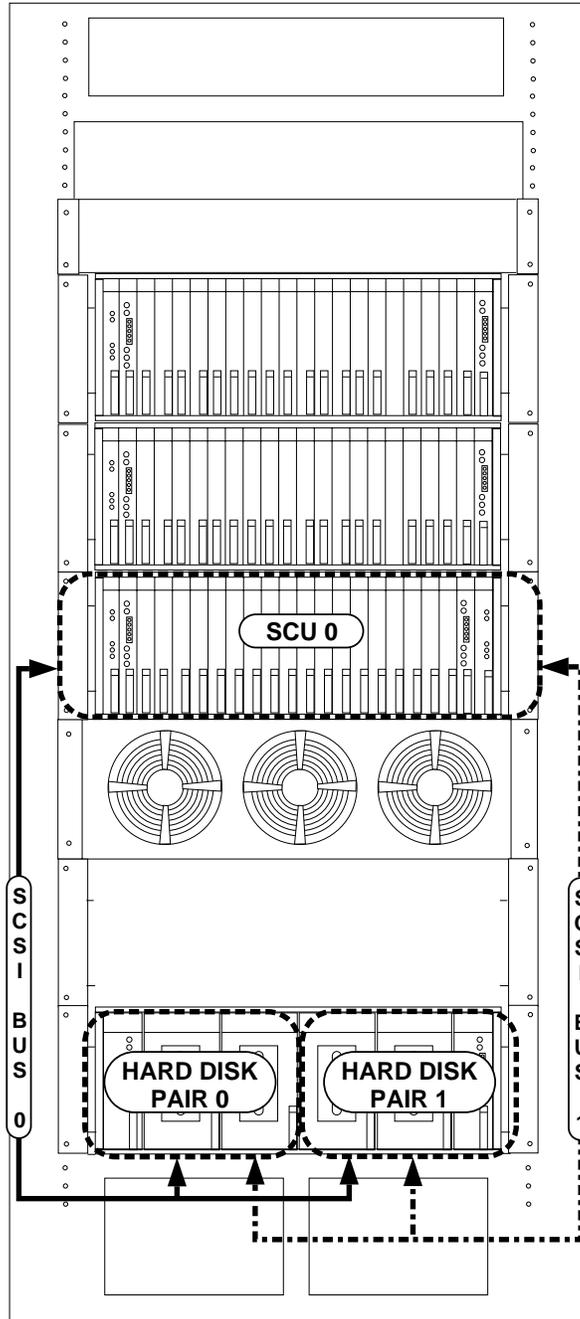

Figure 1. SCU, Associated Disk Pairs, and Bus Connections in the SCC Cabinet
6. Following all existing electrostatic discharge practices, remove the hard disk circuit pack from Bus 1. (See Figure 1 or 2 to determine the Bus 1 hard disk circuit pack location.)